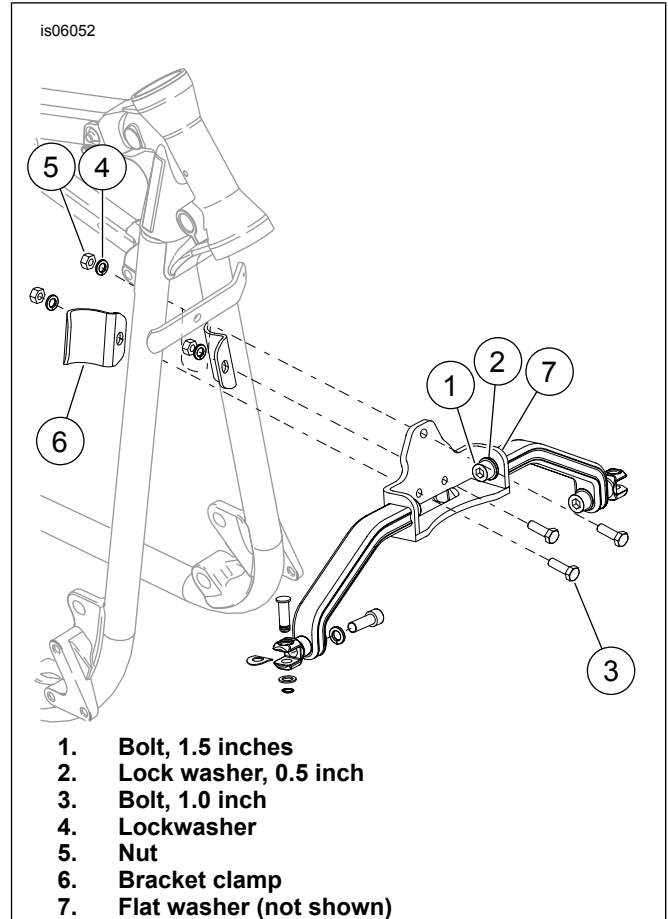
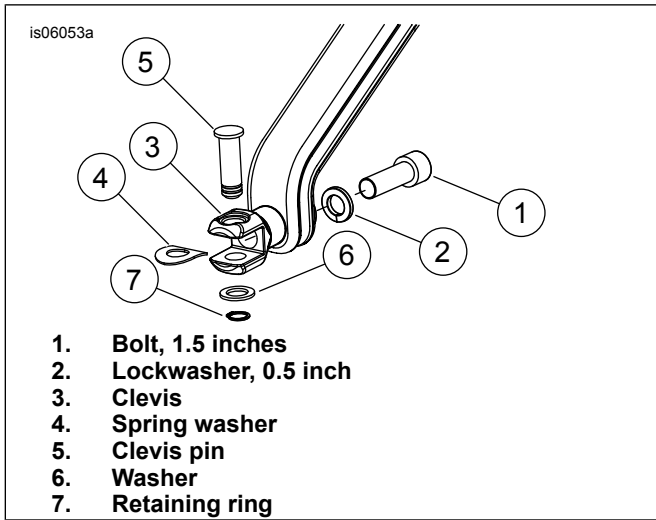

Figure 1. Install Mounting Bracket
Figure 2. Install Footpegs
1. See Figure 1. Assemble the arms to the center frame bracket using bolts (1), lock washers (2) and flat washers (7) (not shown). Screw in bolts finger-tight.
2. Place the center flange of the arm assembly **behind** the cross member just below the steering head and insert a bolt (3) through the cross-member and arm assembly bracket.
3. Install a lockwasher (4) and a nut (5) to the arm assembly bolt and tighten to 20.3 N·m (15 ft-lbs).
4. Install the bracket clamps (6) to wrap around the back of the down tubes and attach to the center arm bracket using the bolts (3), lockwashers (4) and nuts (5). Tighten bolts to 20.3 N·m (15 ft-lbs).
5. See Figure 2. Install the clevis (3) to the arm bracket using bolt (1) and washer (2). Screw in bolt finger-tight.
6. Position the square end of the spring washer (4) to the inside of the clevis and the rounded edge facing out from the end of the clevis. Hold the spring washer in place and position the footpeg (purchased separately) into the clevis and install the clevis pin (5) into the clevis and secure the pin with a lock washer (6) and retaining ring (7).